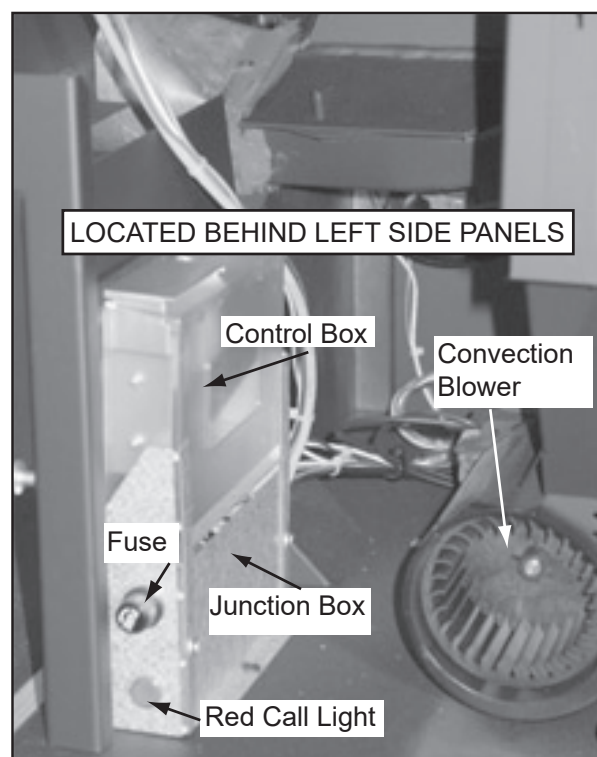

Figure 11.3
5. Look through the hole in the left lower side panel and you will see the red call light on the control box will be on (**Figure 11.3**). This indicates the thermostat is calling for heat. On the
3. Occasionally the appliance may run out of fuel and shut itself down. When this happens, the red call light will be on (**See Figure 11.3, page 11**).